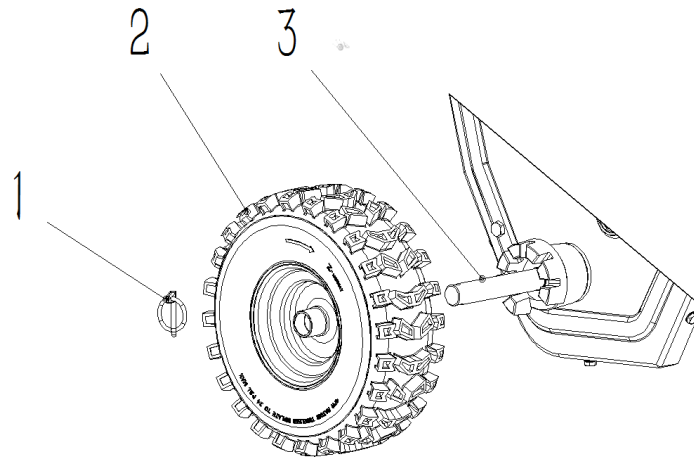

Figure 2
2.2 Install the Tyre: As shown in the figure, pass the wheel (2) onto the wheel shaft (3) and insert the spring pin (1) into the hole of the wheel shaft (3). Install the left (or right) wheel in the same way and pay attention to the direction indicated by the arrow sign on the tyre. (See Figure 2)